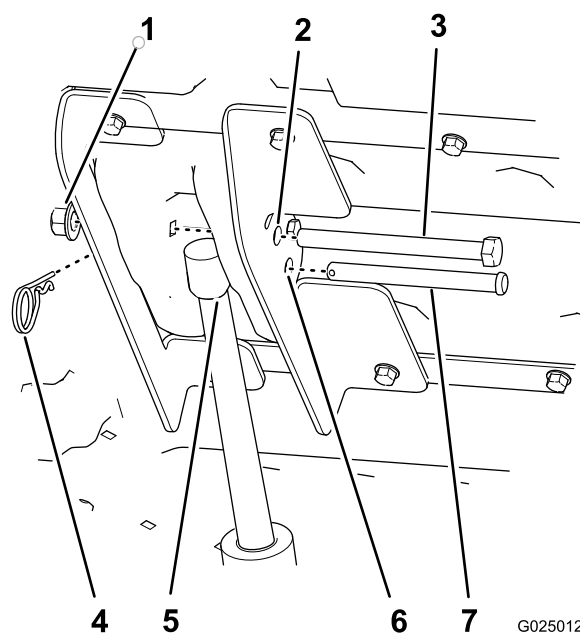

Figure 9
- Press the up paddle the bed-lift switch to extend the rod of the lift actuator rod until the hole in the rod aligns with the holes in the inboard and outboard-lift brackets (Figure 9).
- Secure the lift-actuator rod to the lift brackets with clevis pin (3-1/2 inch) and hairpin (Figure 9).
outboard-lift brackets (Figure 9) and secure it with a nut (1/2 inch) until the flange nut is snug.
2. Remove the hair pin cotter and clevis pin securing the actuator rod to the inboard and outboard-lift brackets (Figure 9).
7. Lower the box and align the lift actuator to the lift brackets (Figure 9).
8. Secure the lift actuator to the lift brackets with the clevis pin and hairpin (Figure 9).